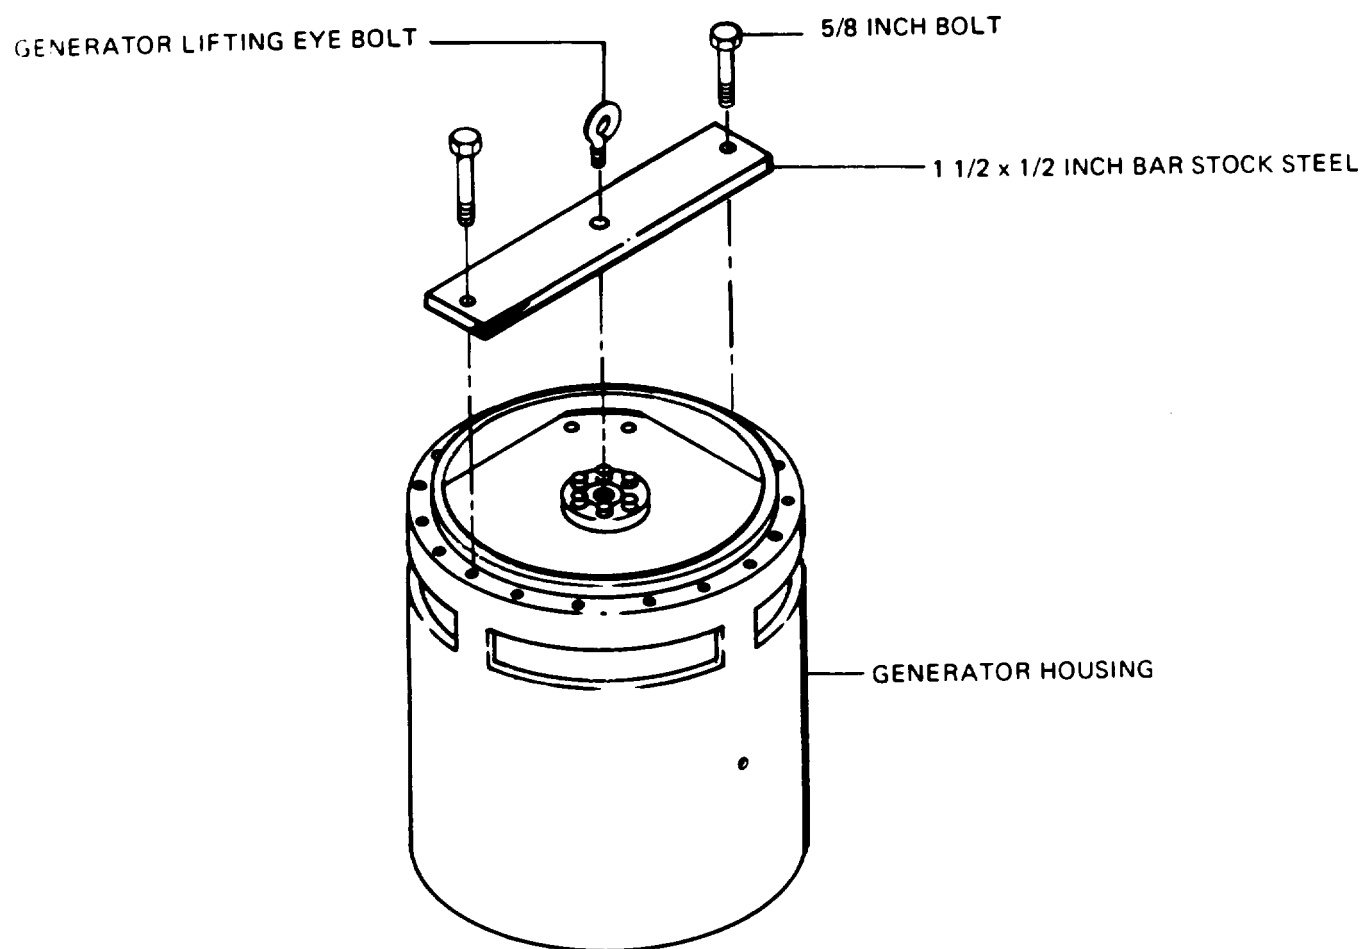

Figure 3-137. Securing Generator Rotor to Stator
- (14) Secure the bar stock to the rotor assembly using the generator lifting eye (see figure 3-137).
- (15) Locate and center punch a hole at each end of the bar stock in line with the generator housing mounting holes.
- (16) Remove the generator lifting eye and the steel bar.
- (17) Drill a 5/8 inch hole at each center punched position.
- (18) Secure the steel bar to the stator (generator housing) with two of the screws used to secure the generator to the engine flywheel housing.
- (19) Install the generator lifting eye bolt.
- (20) Using a suitable lifting device, lift the generator by the eye bolt and stand it on its end bell.
If the alternator assembly is to be sent to higher level, the rotor assembly must be secured in the stator assembly to prevent damage while in transit. The bar stock steel illustrated in figure 3-137 can be used for this purpose.